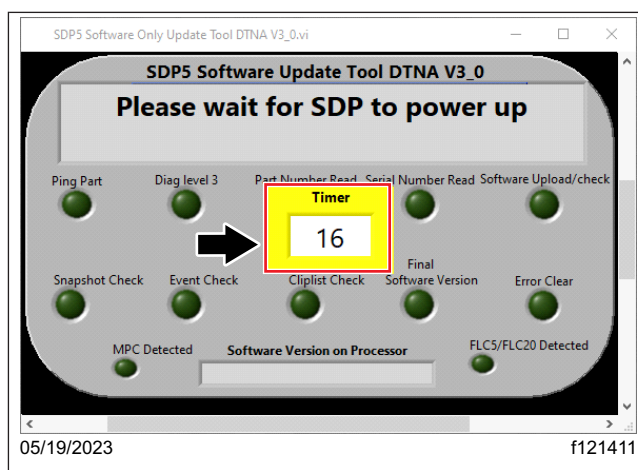

Fig. 23, Time Left for the Connection to Establish
11. A timer is displayed on the screen while communication with SDP5 is being established. See Fig. 23.